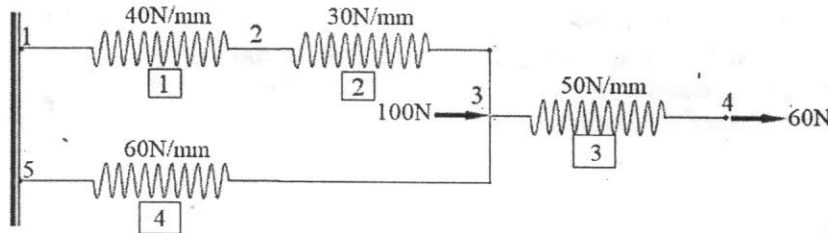

Fig. 1c
- c) For the spring shown in Fig. 1c, determine the nodal displacements using principle of minimum potential energy.